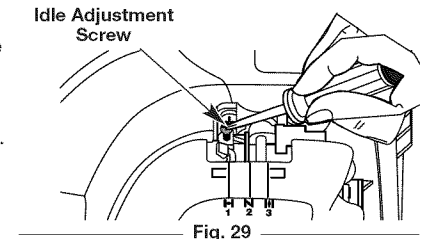

Fig. 29
The idle speed of the engine is adjustable. An idle adjustment screw is between the air filter cover and the engine starter housing (Fig. 29).
2. Release the throttle trigger and let the engine idle. If the engine stops, insert a small Phillips screwdriver in between the air filter cover and the engine cover (Fig. 29). Turn the idle speed screw in, clockwise, 1/8 of a turn at a time (as needed) until the engine idles smoothly.